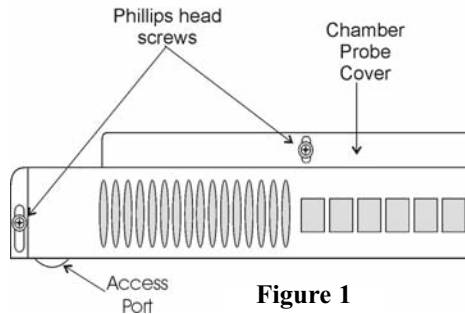

Figure 1
1. Open the freezer door/lid and remove the probe cover by removing the two Phillips head screws securing it. Refer to Figure 1.